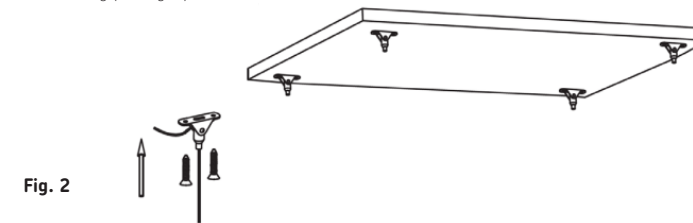

Fig. 2
- Using the anchors of the suspension kit (LPANS, sold separately) as a template, mark the location for, and drill the fixing holes ensuring not to infringe with any gas/water pipes or electrical cables. Fix the anchors to the ceiling (see Fig. 2)